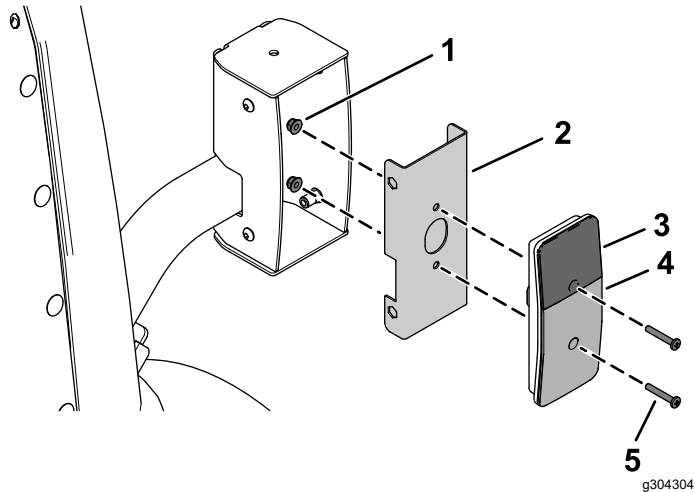
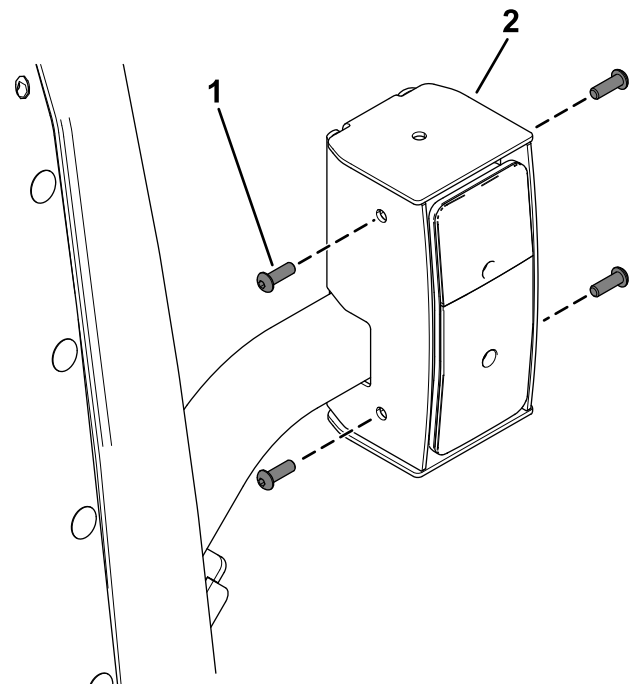

Figure 34
Figure 35
- Secure the taillights to the inner mount assemblies using 4 pan-head screws (#10 x 1-1/4 inches) and 4 flange nuts (#10) as shown in Figure 34.
- Secure the assembled taillights to the taillight housings using 8 button-head bolts (1/4 x 3/4 inch) as shown in Figure 35.
Ensure that you install the taillights with the yellow lens on top (Figure 34 and Figure 35).